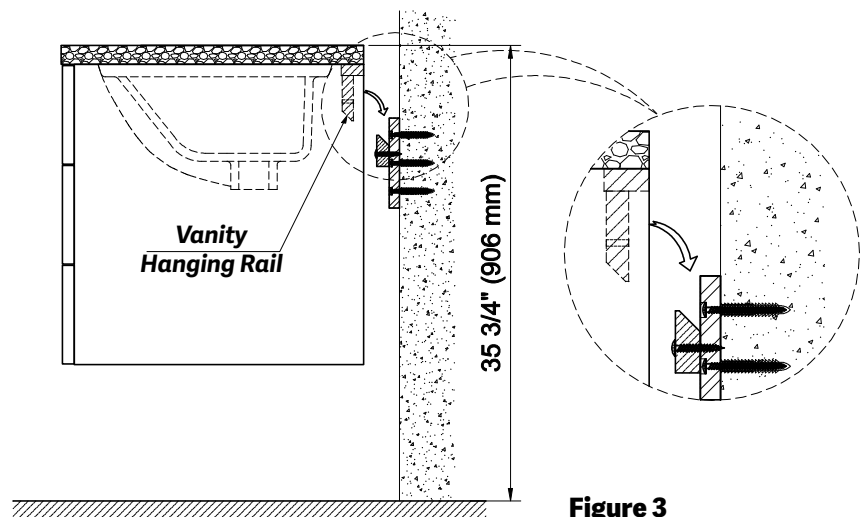

Figure 3
- Hang the vanity (1) on the wooden hanger (2).
- Use Figure 3 as reference for recommended final mounted height.